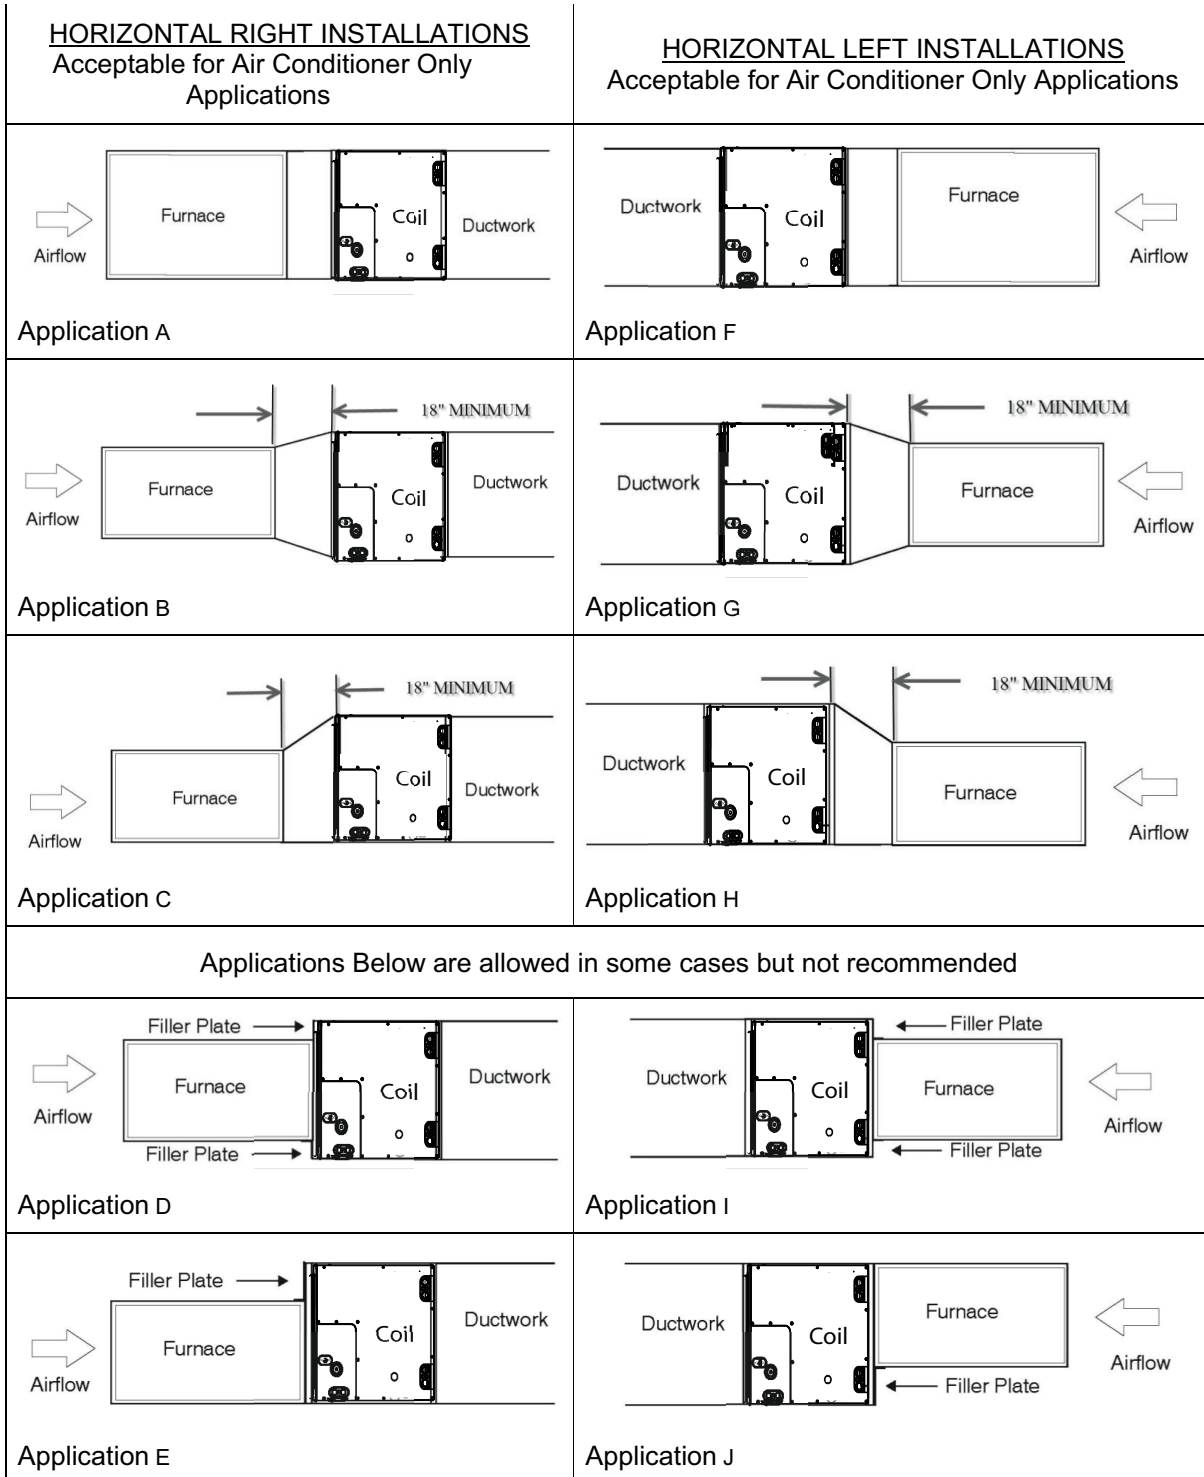

Fig. 8 – Horizontal Installation Applications
The unit can be installed on a work platform, secured to roof truss in attic, suspended from hangers on floor joists in crawl space, or installed on blocks. It is designed to allow airflow in either direction, to mate with horizontal-left or horizontal-right furnace installations. Ensure coil cabinet is level side to side and front to back. It is allowable to add up to 1/2-in. additional slope over length and depth of coil cabinet in the direction of drain pan connection (Fig. 8).
6. If coil is wider than furnace, use 4-in. minimum transition and self tapping screws to attach furnace (Fig. 8).
5. If coil is wider than furnace, use 4-in. minimum transition and self tapping screws to attach furnace (Fig. 8).